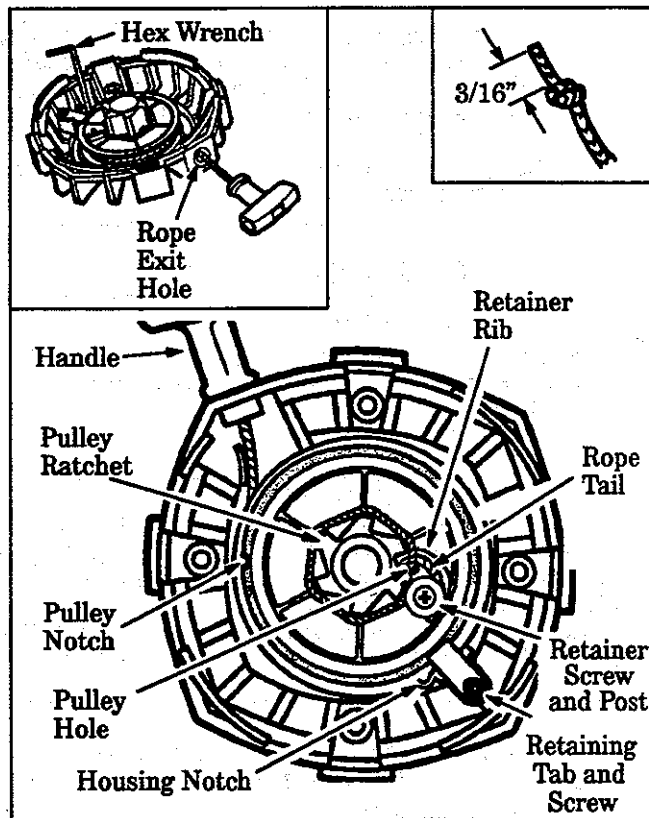

Figure 28
8. Remove Rope Retaining Screw and remove any remaining rope. (Figure 28 ).
9. Hold Pulley Housing as shown in Figure 28 . Hand turn the Pulley clockwise as far as it will go. Then, turn the Pulley counterclockwise until the Pulley Notch is aligned with the Housing Notch next to the Retaining Tab and Screw. Figure 28 .
11. Insert the small hex wrench into the hole formed by the Notches to hold the Pulley in position. Figure 28 (inset-upper left).
15. Insert one end of the Rope through the Handle and secure with a knot. Leave a 3/16" tail behind the knot. Figure 28 (inset-upper right).
16. Insert the other end of the Rope through the Rope Exit Hole into the inside of the Housing, into the Pulley and up through the Pulley Hole. Figure 28.
17. Wrap the Rope counterclockwise around the Pulley Ratchet and tuck loose end under the Rope at the Pulley Hole. Figure 28. Leave a 1 inch tail laying between the retainer rib and the Rope Retaining Screw/Post. Figure 28.
18. Thread Rope Retainer Screw into the Rope Retaining Post. Tighten screw until the washer is snug against the either the rope or the screw post. Pull firmly on rope to tighten it against the pulley ratchet. Figure 28.